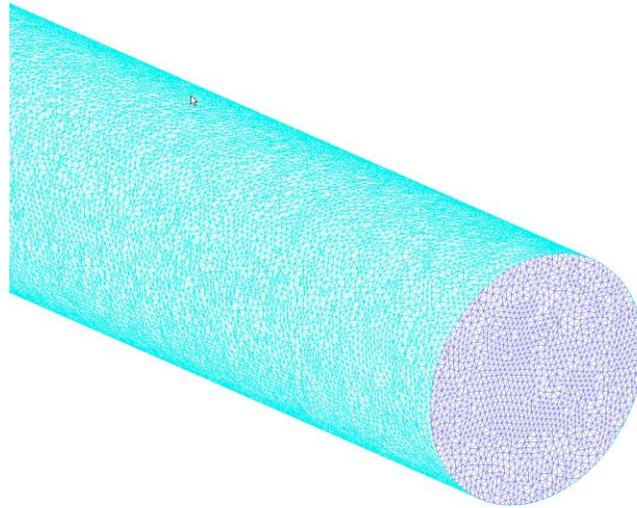

Figure 3.27: Tria surface
*Tria* is the only explicit 3D surfaces that cannot be generated in GUI but it can be loaded into GUI. A *tria* surface is composed of unstructured triangular elements. Each triangular element is defined by 3 points. The *tria* files are represented by *\*.tria* as an extension. A *tria* file is similar to a *quad* file that consists of total number of points, coordinates of each point, number of triangular elements in the surface, the node numbers of the elements and the property id of the surface. No degenerated sides are allowed for any of the triangular elements. Figure 3.27 shows an example of *tria* surface with two triangular elements. *Quad* files generated in GUI can be converted into *.tria* files using some conversion tools. In addition to that, the geometry formats such as *step*, *stl*, *iges*, etc., are converted to *.tria* files using the conversion tools before it is loaded into the GUI.